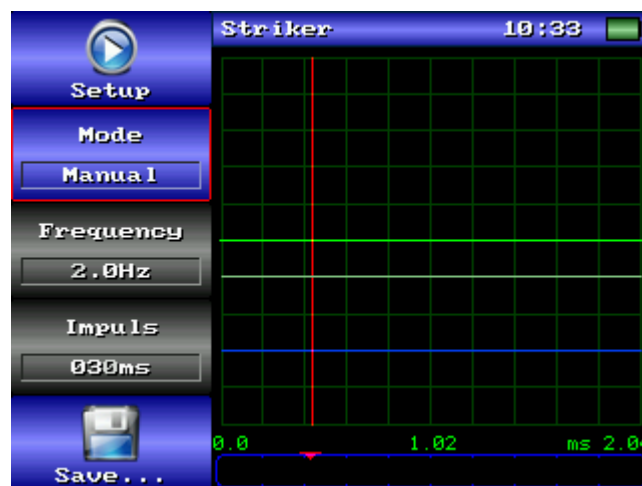

Fig.D. 5 “Striker” mode.
D.2.3.2 Select the “Striker” mode in the main menu (see Fig.D. 5). Set the “Mode” parameter to “Manual”.